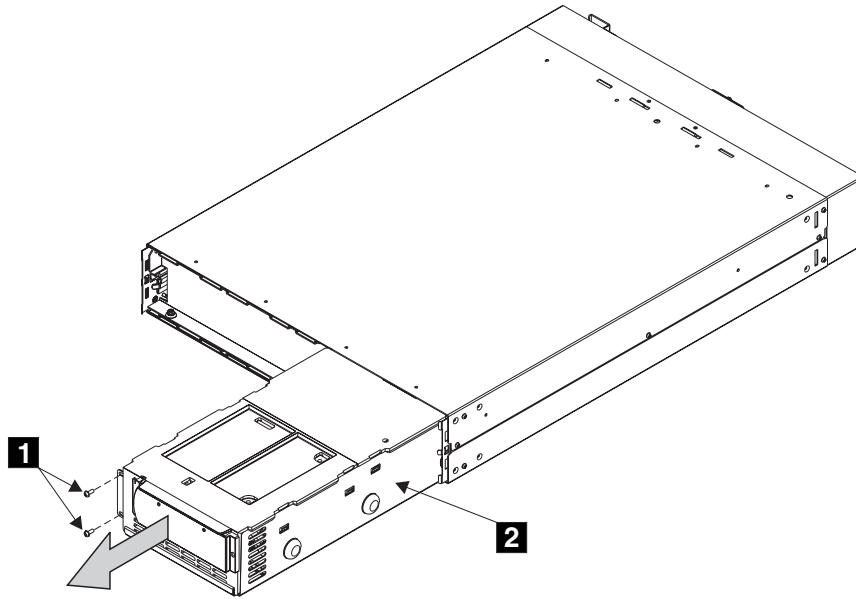

Figure 109. Removing the 2145 uninterruptible power supply electronics assembly
3. Remove the two screws **1** (shown in Figure 109 on page 126).